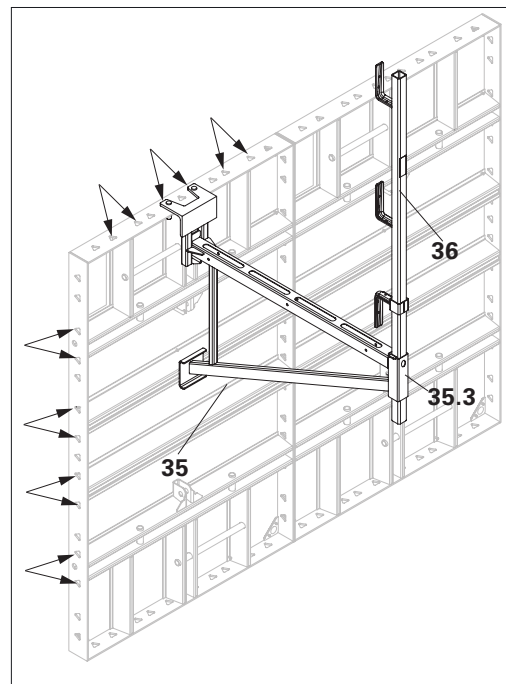

Fig. A7.04
2. Insert the Guardrail Post HSGP-2 (36) into the holder pipe (35.3) of the scaffold bracket.
3. Insert the Scaffold Bracket (35) into the triangular slots at strut location. (Fig. A7.04)
The Scaffold Bracket (35) can be mounted on both the sides at the location as shown in arrow mark. Fig. A7.04